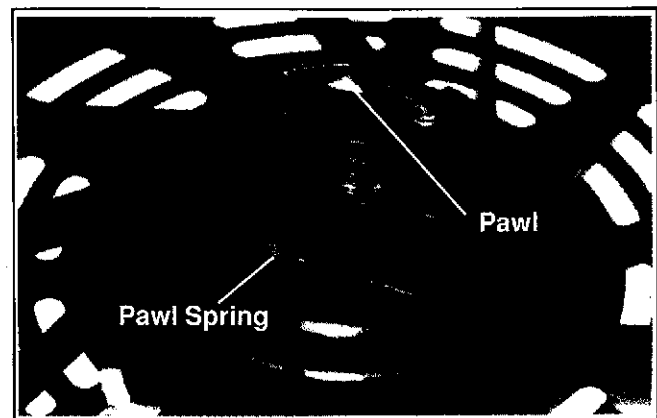

Figure 7-10. Installing Pawls and Pawl Springs.
- Install the pawl springs and pawls into the starter pulley. See Figure 7-10.